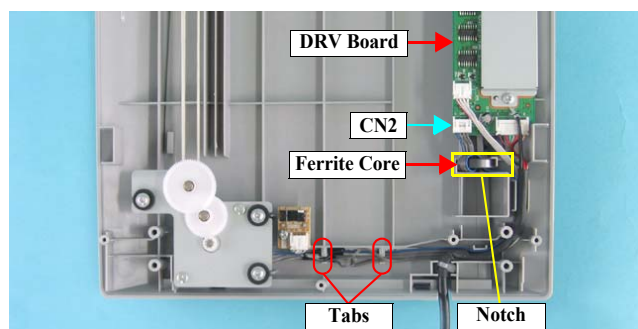

Figure 4-46. Removing the TPU CR Motor Connector
4. Release the Ferrite Core and CN2 Connector Cable from the notch and tabs shown in Figure 4-46.